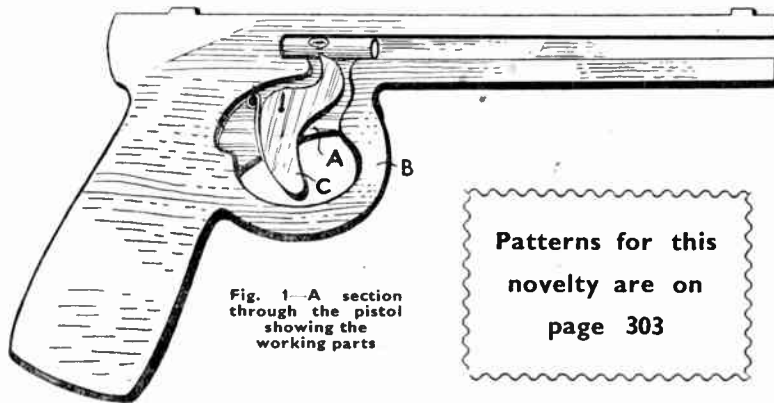

Fig. 1 - A section through the pistol showing the working parts
piece (B) to one of the pieces (A). Next make the plunger, which consists of a piece of $\frac{1}{4}$ in. round rod with a notch cut in as shown. The wire (D) is pushed through and two eyes formed as in the small sketch. Drop the plunger into position as shown in Fig. 1 and then proceed to make a spring from wire. A good suggestion is to use a safety pin, cutting off the unwanted portions. The trigger (C) is cut from $\frac{1}{4}$ in. wood and rubbed down until it is an easy fit between the sides (A).
again and drop the spring and trigger on to the pins as shown in Fig. 1. Next smear the remaining side with glue and place in position, pressing it on to the two fretpins firmly. Make sure the plunger is in place before assembly. Two screw eyes are now put in at the position marked (3) on the piece (A). Move the plunger forward as far as it will go, and then tie elastic round the screw eyes and the hooks (D). To load the gun, pull back the plunger until it engages with the trigger, and then slide the wooden pellet down the muzzle.